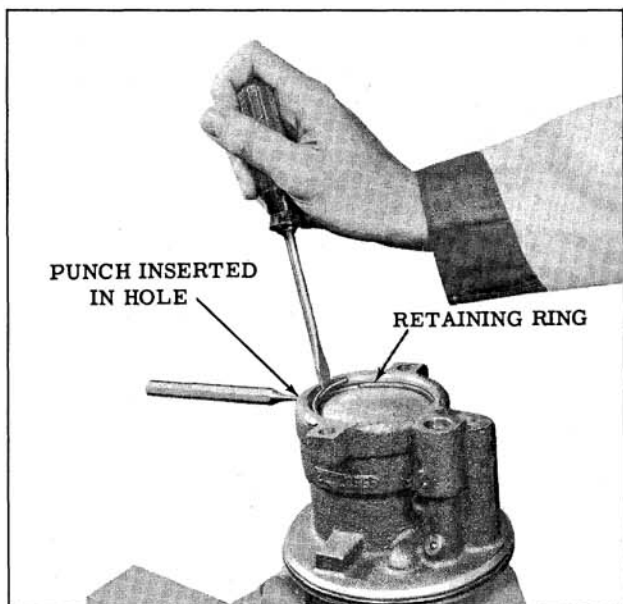

Fig. 8-27 Removing End Cover Retaining Ring
6. Rotate the end cover retainer ring so that one end of the ring is over the hole in the side of body, then force end of ring from its groove and remove ring. (Fig. 8-27)